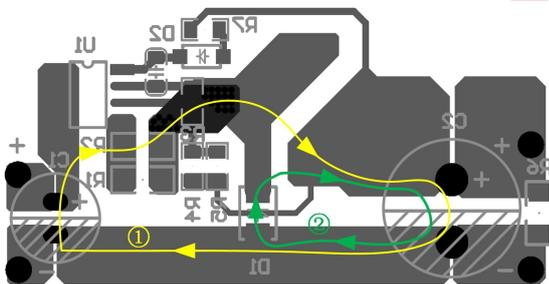

Fig.2
(1) Power Loop Routing:
As shown in fig.2, minimize the power loop area of ① and ② as small as possible. Power loop ① is formed by input capacitor (C_1) - IC (U_1) - inductor (L_1) - output capacitor (C_2). Power loop ② is formed by inductor (L_1) - output capacitor (C_2) - freewheeling diode (D_1). Make sure these two loop area as small as possible.